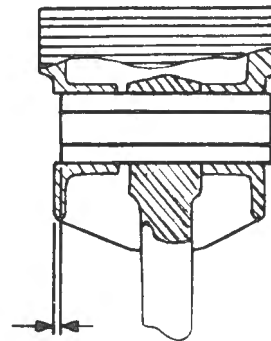

Fig. E-42
- 6 Using the tension wrench on the nut, and holding the screw, pull the gudgeon pin in until the shoulder of the tool screw is 1.59 mm (1/16 in) below the piston face. Refer Fig. E-42. When correctly fitted with the connecting rod midway between the piston bosses, the ends of the gudgeon pin should be flush with the flat faces of the piston.